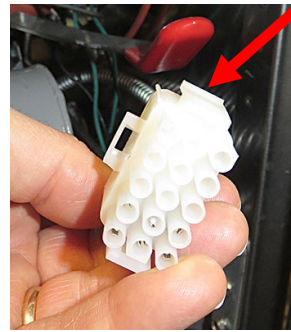

Figure 6
8. Route the other end of the conduit harness, along the inside left side of the fryer for vat #1, to the front of the fryer (see Figure 6). All other vats will run directly to the rear of associated control box. Wires will be removed from this connector and added to the filter harness connector behind the rear of the far-left control box.